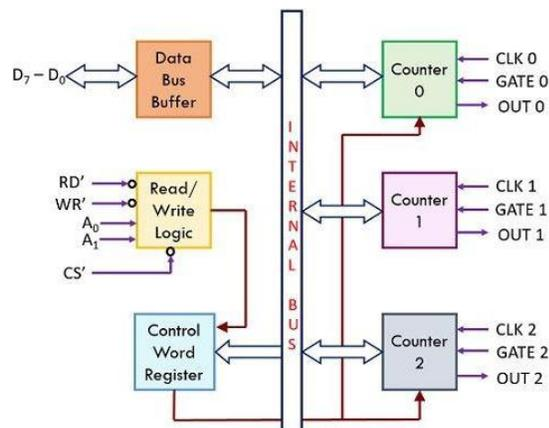

Fig. 3.14
The fig. 3.14 shows the functional block diagram of 8254 Timer: It has 3 counters each with two inputs (Clock and Gate) and one output. Gate is used to enable or disable counting. When any value of count is loaded and value of gate is set (1), after every step value of count is decremented by 1 until it becomes zero.